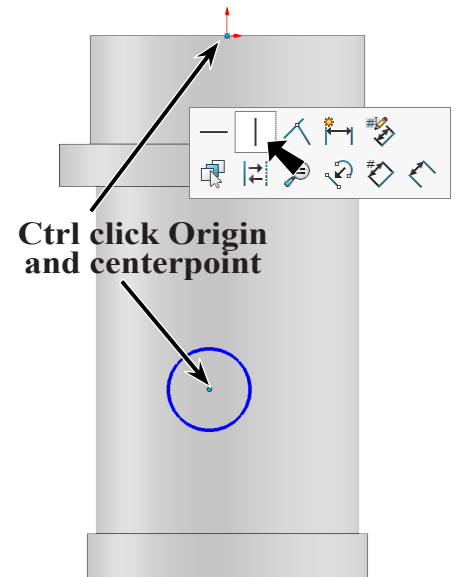

Fig. 13
Step 6. **Ctrl click centerpoint of circle and Origin**  to select both. Release Ctrl key and click **Make Vertical**  on the context toolbar, **Fig. 13**.